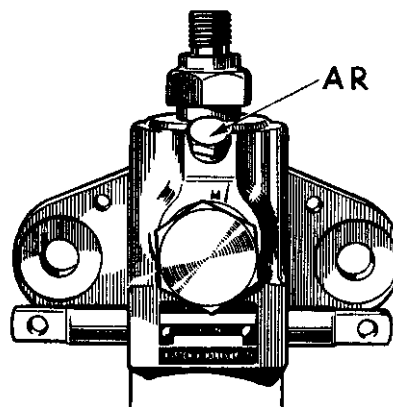

Fig. 11 Fuel Pump.
- iii. Remove the air release plug on the top of the fuel filter, and partially unscrew the plug 'AR', Fig. 11, on each fuel pump until the vent holes are exposed.